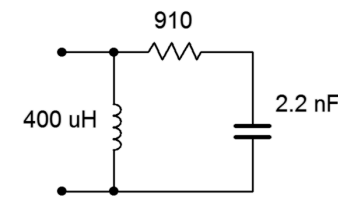

Figure 4.3
3. Determine the impedance of the circuit of Figure 4.3 at frequencies of 300 Hz, 30 kHz and 3 MHz.